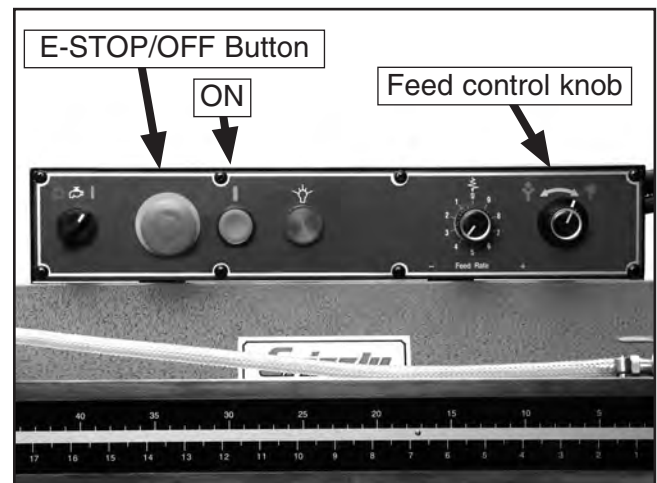

Figure 12. Control panel.
5. Raise the bandsaw and close the feed control knob to keep the saw in place (see **Figure 12**).
6. Start the bandsaw while keeping your finger near the EMERGENCY STOP/OFF button (**Figure 12**) at all times during the test run. The bandsaw should run smoothly with little or no vibration.